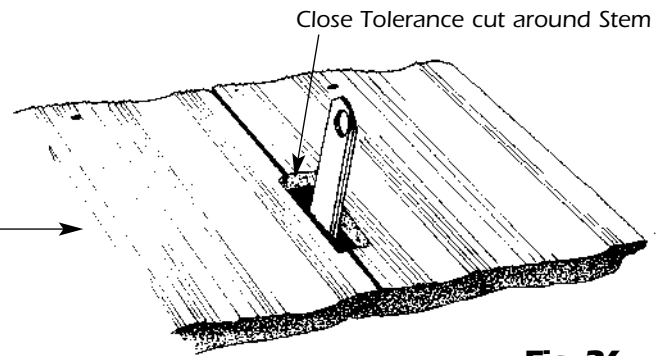

Fig. 26
9) Cut a close tolerance opening around the anchor stem as shown in **Fig. 26**. Then set the flashing base over the tile and form to the tile contours. Make sure at least 50% of the attachment hole on the anchor stem is extended above the flashing boot.